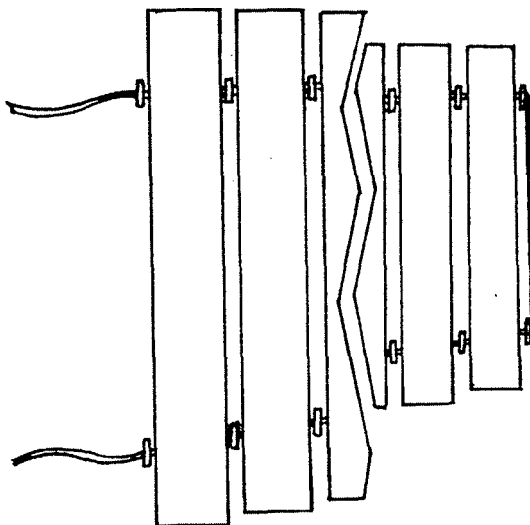

Figure 5
6.2.2 The suspension shall consist of a length of 1/8" diameter cotton cord looped through drilled holes in the bar in such a manner to join with the supports on the bar support rail. (see Figure 5)